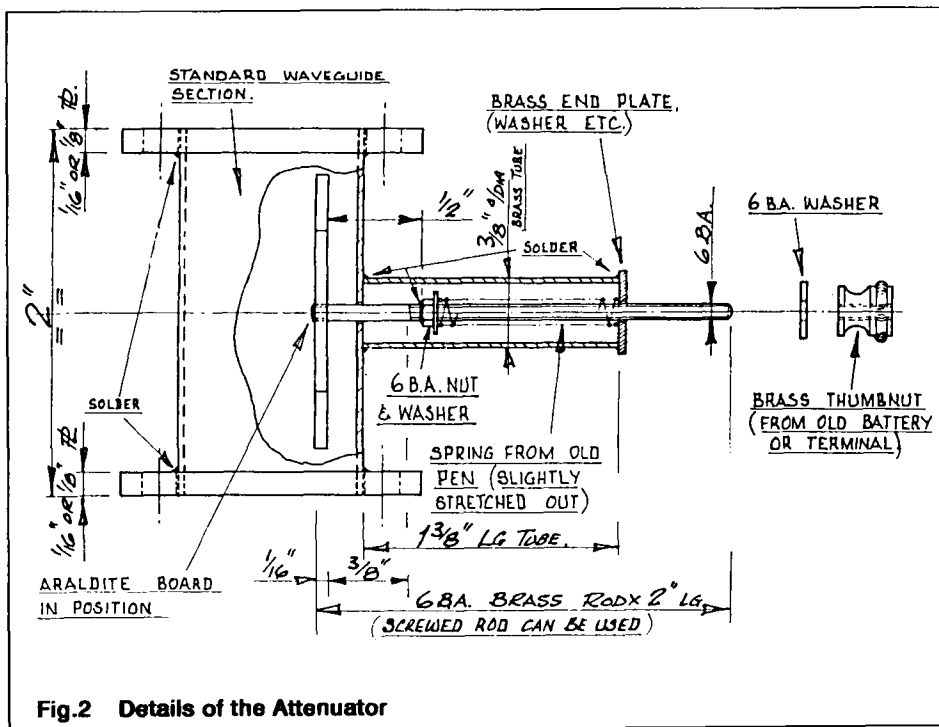

Fig. 2 Details of the Attenuator
- 5) Two 6BA nuts, two washers, and a small spring out of an old Biro pen. (See Fig.2).